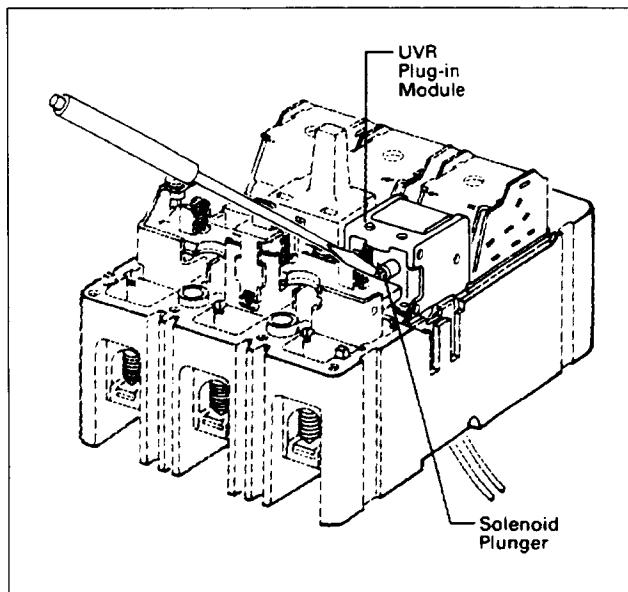

Fig. 2-6. Screwdriver Depressing Undervoltage Release Mechanism Solenoid Plunger
- b. Mechanical check. Hold UVR plug-in module firmly in position in the base. Using a small flat-blade screwdriver as shown in Fig. 2-6, push in and hold solenoid plunger. Reset and switch HMCP to ON. Release solenoid plunger and check that HMCP trips.